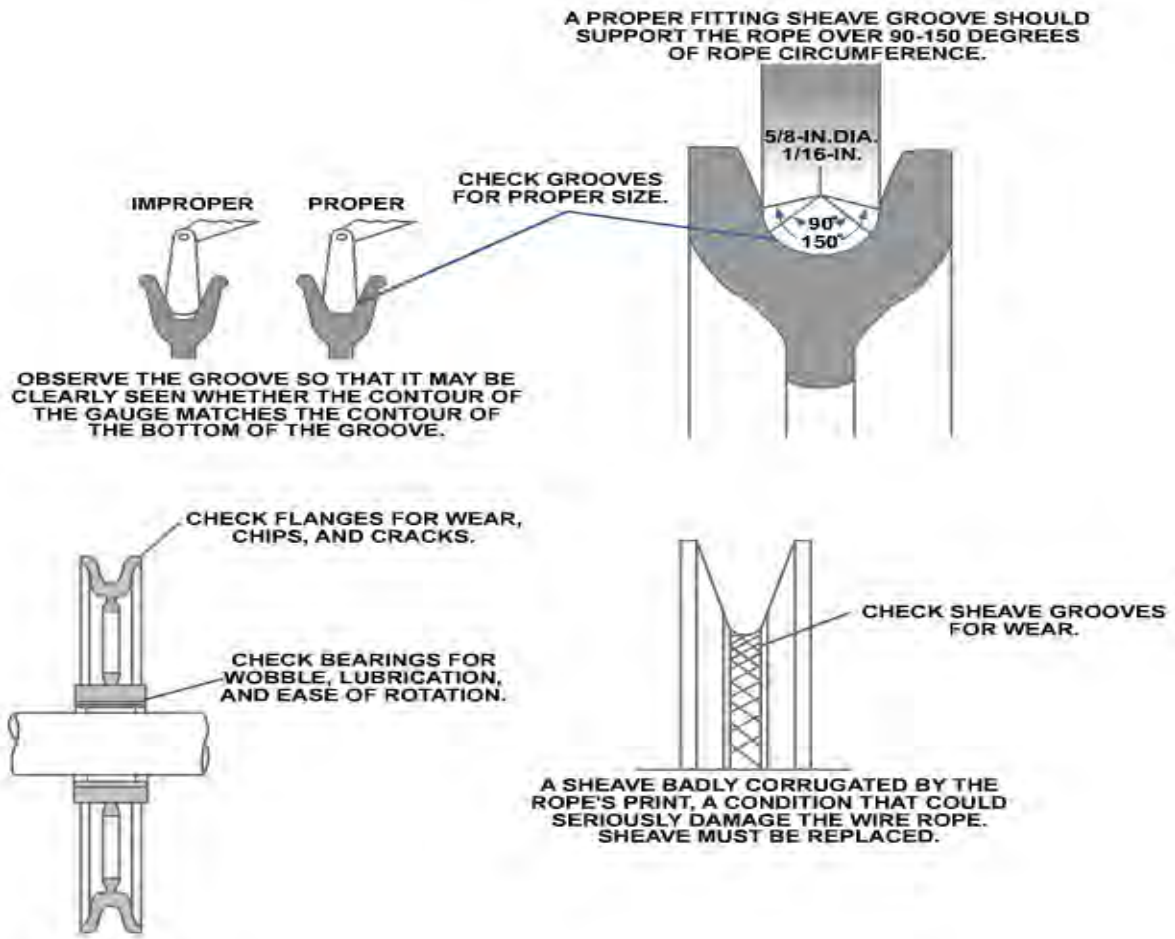

Figure 21-69 – Sheave (pulley) inspection.
- h. Sheaves or Sprockets – Check, where practical, the condition of sheaves or sprockets to be sure that they are free to rotate and are not cracked or chipped. In addition, inspect the sheaves for wear in the wire rope sheave groove, loose or damaged sheave guards, and worn bearings and pins (*Figure 21-69*). Sheaves rotate on either bearings or bushings that are inspected for discoloration (due to excessive heat), metallic particles, chips or displaced metal, broken or distorted bearing retainer or seals, adequate lubrication, and tight bearing caps.